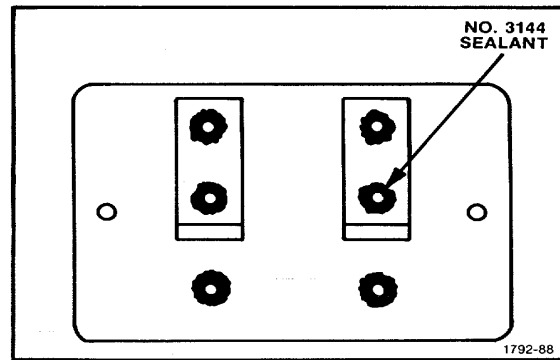

Figure 5-35. Sealing of Battery Pack screwholes
30. Watertight sealing procedures for the Battery Pack (see Figs. 5-35 and 5-36)
2. Form a bead of No. 3144 sealant in and around each of the six screw holes in the Panel. See Fig. 5-35.